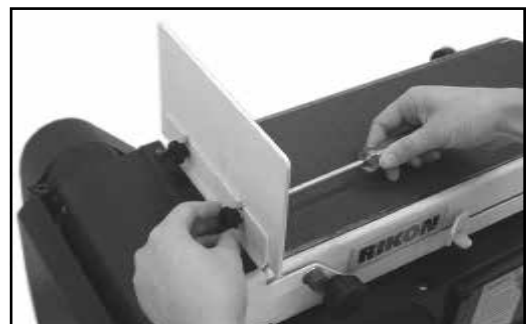

Fig. 03
3. Put a 6mm washer and a wing nut on the screw and tighten. (See Fig. 03)